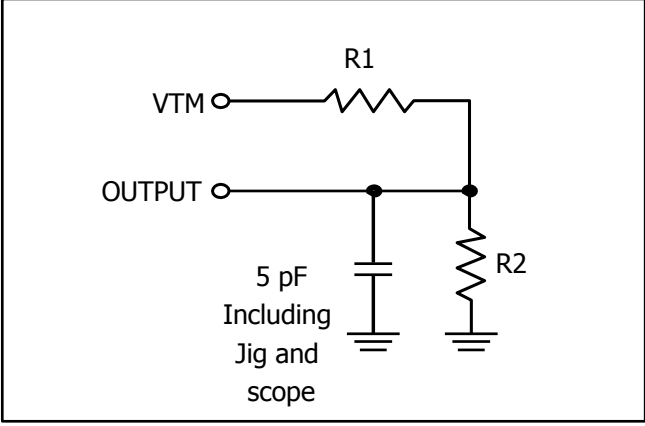

Figure 2
2. Tested with the load in Figure 2. Transition is measured ± 100 mV from steady-state voltage. Not 100% tested.
3. Tested with the load in Figure 2. Transition is measured ± 100 mV from steady-state voltage. Not 100% tested.